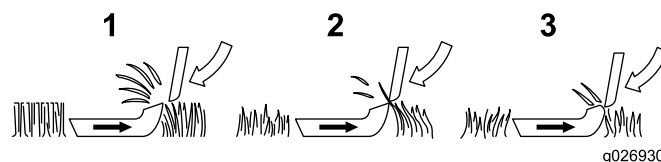

Figure 9
1. **Bedknife/Reel Contact** (Figure 9) – There must be light contact between the bedknife and the reel to keep the cutting edges sharp and to produce an excellent quality of cut. By contrast, mowers operated without light contact allow abrasive materials and grass to pass between the bedknife and the reel. This eroding action rounds off the bedknife and the reel cutting edges, which results in a poor quality of cut. If the cutting edges become round, the bedknife and the reel must be lapped. Excessive rounding off of the cutting edges may require that the bedknife and the reel be ground and lapped. Never compensate for round cutting edges by tightening the bedknife adjusting knob until there is heavy contact because the bedknife and the reel will wear unevenly and cause “rifling”.